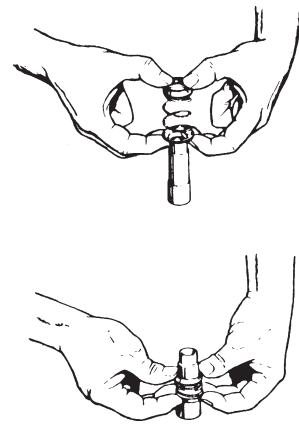

FIGURE 17
- c. Holding the element assembly between the thumb and index finger of both hands, refer to Figure 17, slide the assembly over the sleeve until the spring holder rests against the shoulder of the sleeve.